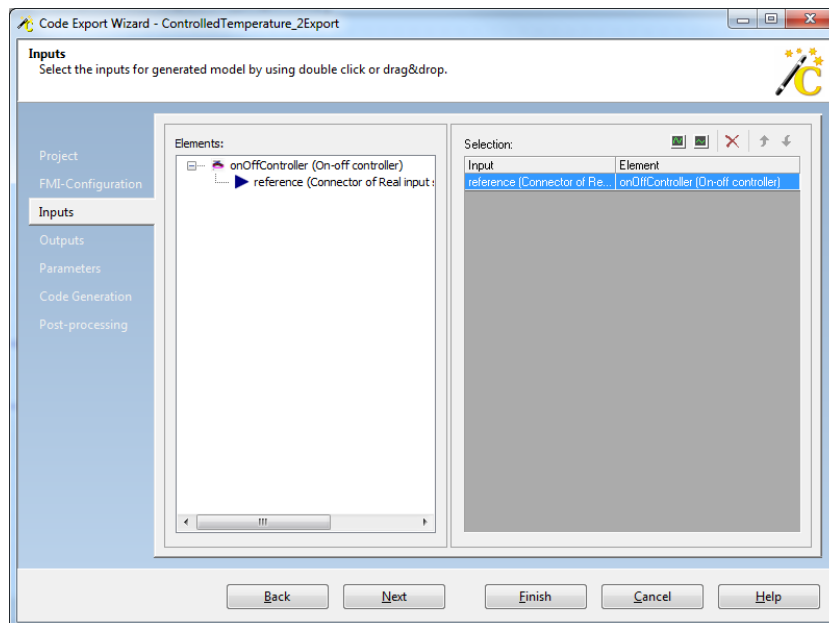

Figure 3: Inputs page of Code Export Wizard.
10. In the Inputs property, the middle column lists elements with available inputs while the right column lists selected inputs. Open the element “onOffController” by clicking the “+” sign next to the name and choose “reference” by double-clicking it. After this operation the window should look like Figure 3. Click “Next”.